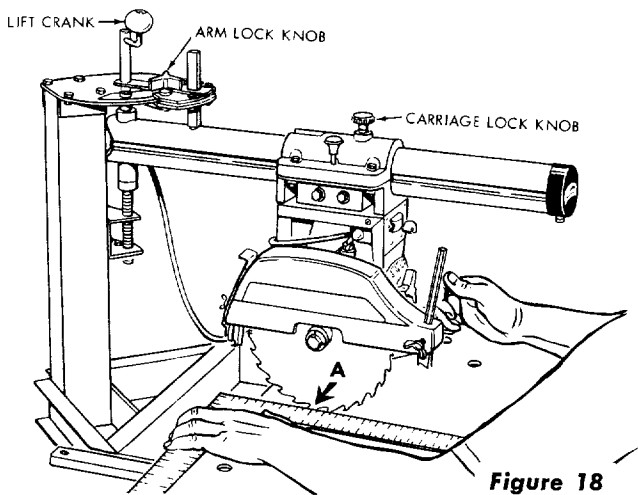
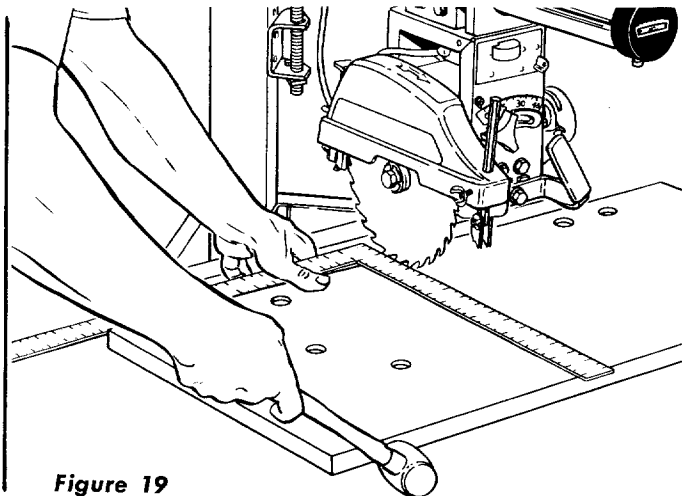

Figure 18
Figure 19
- d. Place the short leg of a framing square against the rear edge of front table, as shown in figure 18, and the other leg touching a saw tooth at point "A". (Be sure to select a tooth with the "set" toward the square.) Mark the tooth with a soft pencil.
- (1) If the saw tooth ("A", figure 18) moves into the square when moving the blade from the rear to the front of table, tap the left-hand front edge of table (figure 19) with the mallet. Continue to shift the table until the adjustment is correct. If this, or the next operation cannot be made as described, refer to "Squaring the Crosscut Travel by Adjusting the 0° (Crosscut) Miter Index Stop", under "Trouble Shooting".
- (2) If saw tooth ("A", figure 18) moves away from the square when moving the blade from the rear toward the front of table, tap the right-hand front edge of table with the mallet to make corrections.